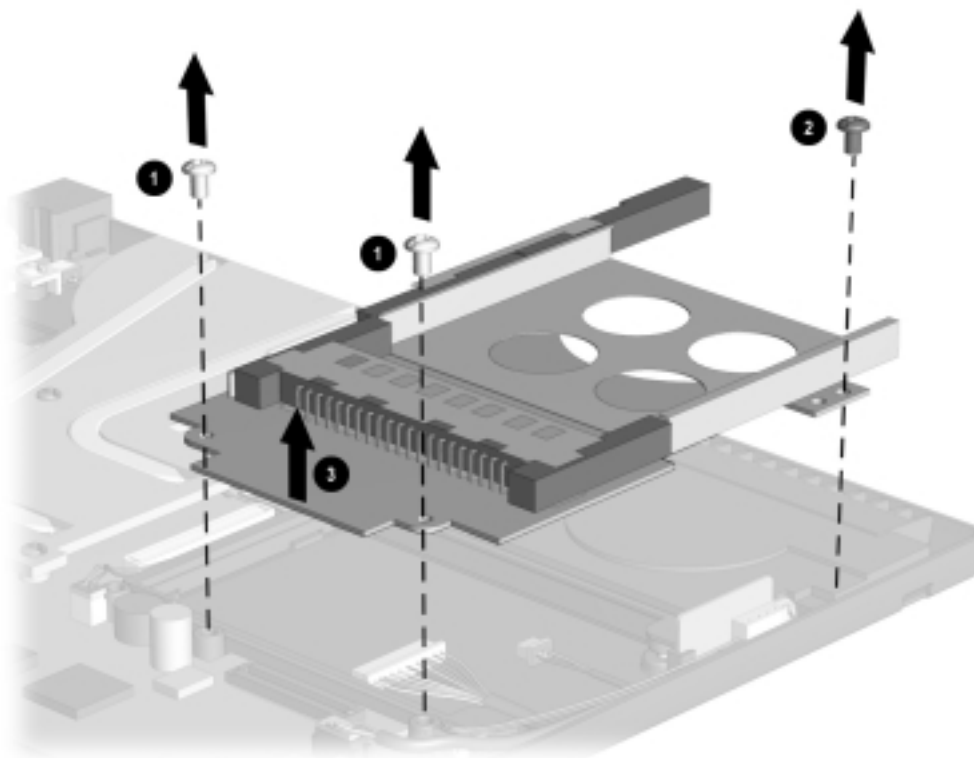

Figure 5-26. Removing the PC Card Assembly
8. Remove the two silver screws ❶ on the left side of the PC Card assembly (Figure 5-26).
9. Remove the black screw ❷ securing the front of the PC Card assembly to the base assembly.
10. Lift the left side of the PC Card assembly ❸ to disconnect it from the system board.